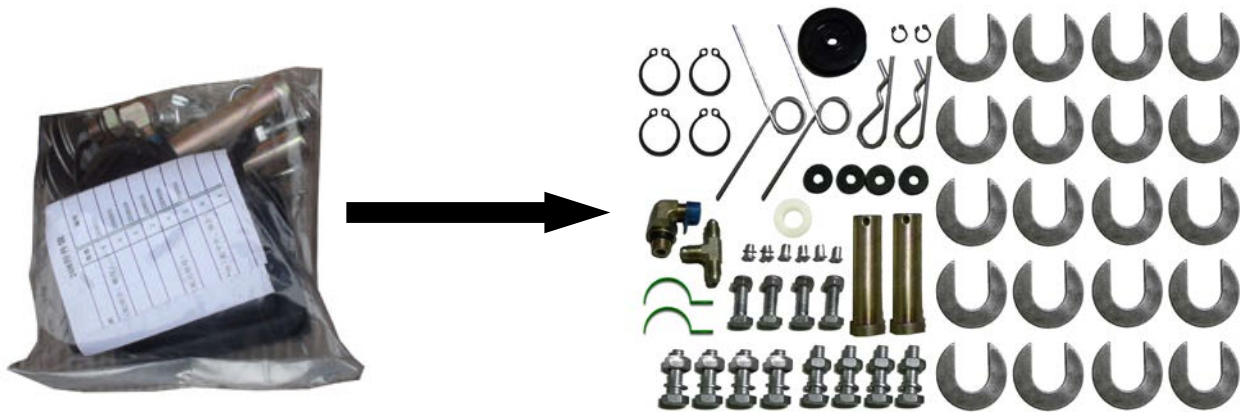

Fig. 10
5. Open the carton of parts and check the parts in the parts bag according to parts bag list (See Fig. 10).